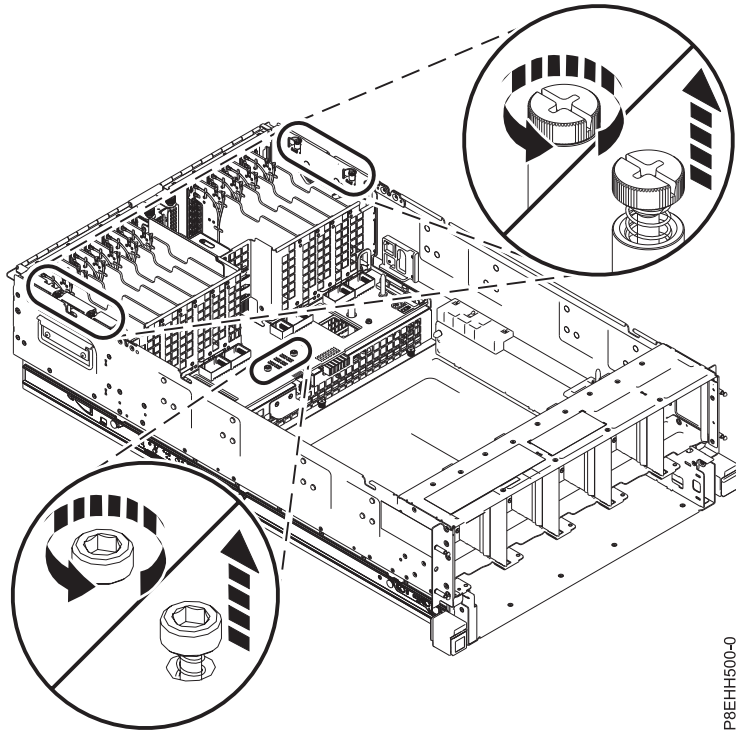

Figure 11. Unscrewing the I/O backplane
- a. Loosen the four captive screws that secure the sides of the I/O backplane by using a #1 Phillips screwdriver. Loosen the two captive screws in the center of the I/O backplane by using a 4 mm Allen wrench, as shown in Figure 11 on page 11.